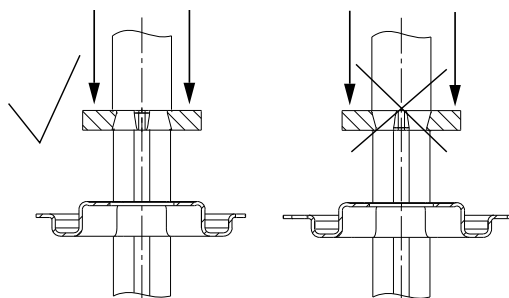

Fig. 19 Fitting the stop ring
6. Fit O-ring (pos. 107) into the rotating shaft seal part (pos. 104). See section 3. *Tightening torques and lubricants*
7. Fit retainer (pos. 111) and stop ring (pos. 111a). See fig. 19.